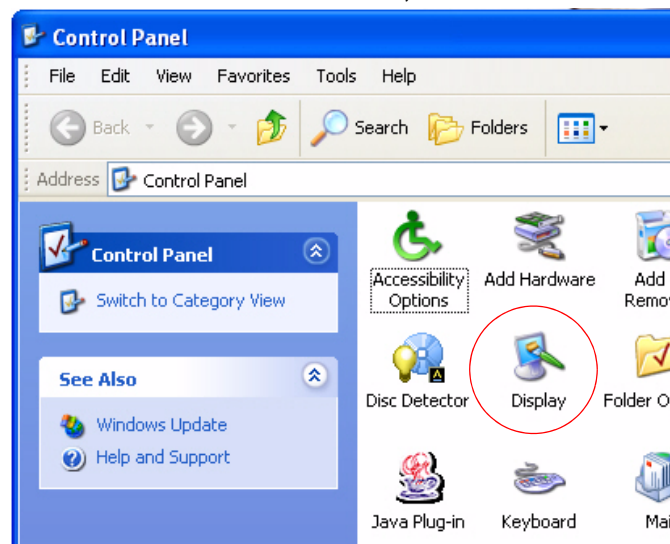
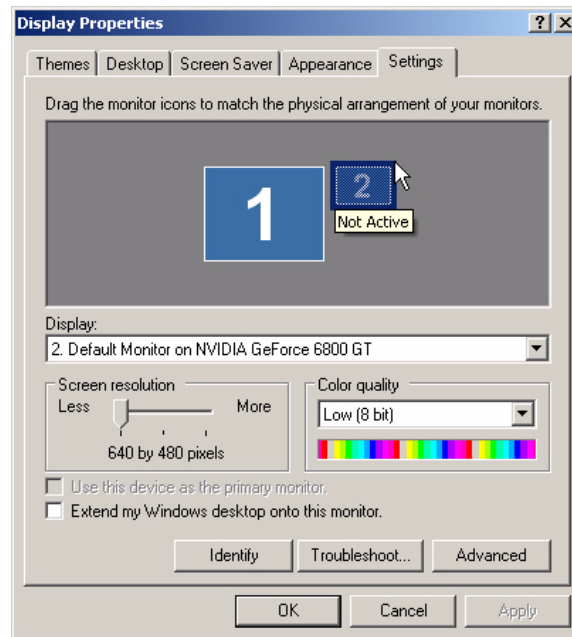

Figure 5-2. Windows XP control panel
Figure 5-3. Settings menu *before* configuring software for TV display
- Double-click the **Display** icon, circled in **Figure 5-2**. The menu pictured in **Figure 5-3** appears. The **2** icon on the right side of the display indicates that the card senses the connection of a second monitor; the “Not Active” tool tip shows that that monitor has not yet been configured.
- Important: Drag the Display Properties window pictured in **Figure 5-3** to the center of the Desktop. This is a necessary part of the actions you will take to properly center the re-sized Desktop image on your monitor.